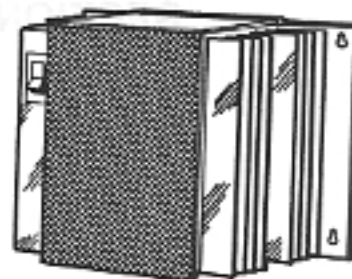

Figure 1-2 POWER SUPPLY, TCX-128
**2.05** The Power Supply ( Figure 1-2 ), contained in a separate unit, supplies DC voltages to the system.